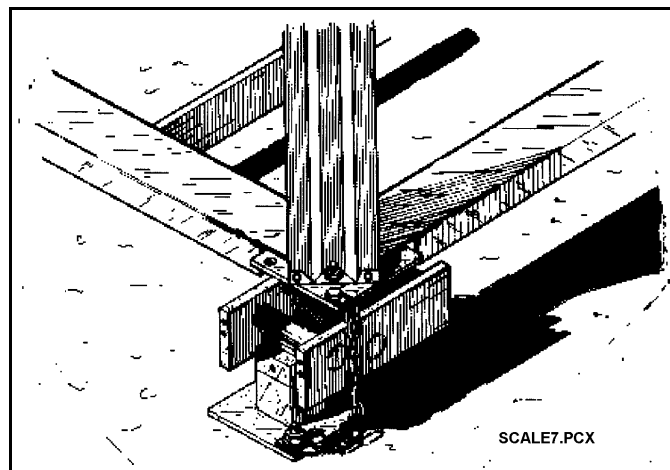

Figure 57. Setting Bin Legs on Scale Framing.
2. Raise the bin onto the Main Stands of the Scale. Use the Leg Anchor Plate provided with the bin plus a 5/8" heavy washer at each leg to secure the bin to the Main Stands. Attach the Safety Chain to the Upper Main Stand at each leg. See Figure 57.